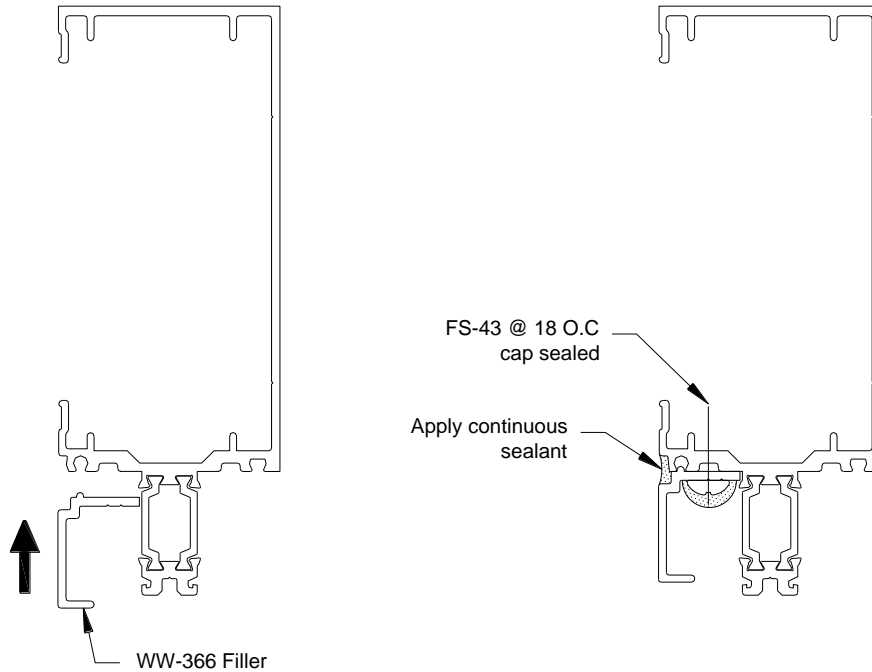

Figure 17: Pocket Filler Attachment at Jamb
- 8.2 Run a continuous line of sealant the full length of WW-366, as shown in **FIGURE 17**.